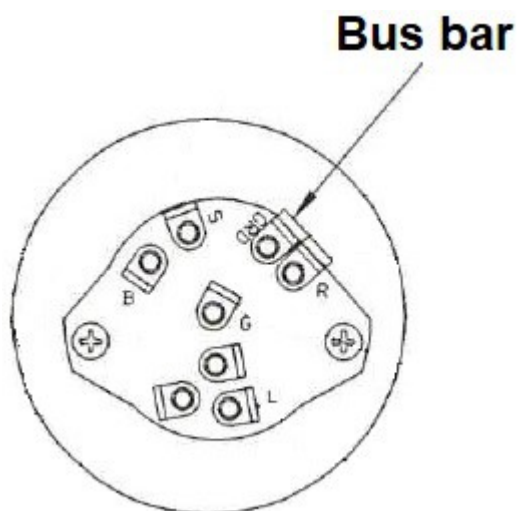

Figure 1. Required jumper (bus bar) on the reverse side of the ignition switch.
19. Install new cables (items 5 through 7). Refer to Drawing DA4-9274-00-03 or Drawing DA4-9274-00-04 (G1000 equipped aircraft).
25. Confirm the presence of a jumper (bus bar) between the GRD and R terminals on the ignition switch as shown in Figure 1, below.
26. If there is no jumper (bus bar) as indicated in Figure 1, install a jumper wire between the upper two adjacent terminals (GRD and R).